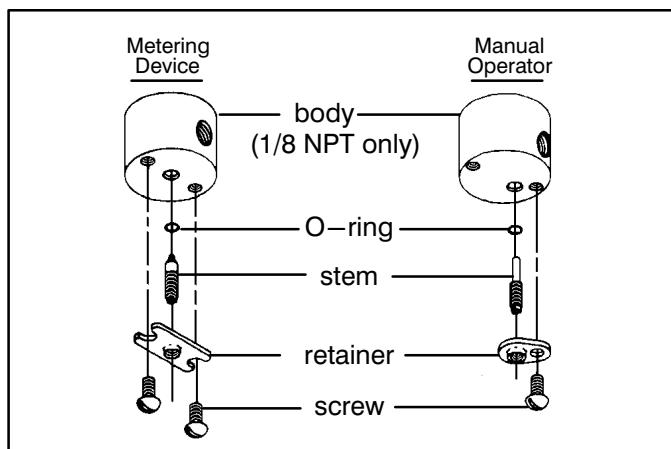

Figure 1. Metering and manual operator constructions.
3. Unscrew solenoid base sub-assembly or valve bonnet with special wrench adapter supplied in ASCO Rebuild Kit. For wrench adapter only, order No. K218948. Remove core assembly, core spring, and solenoid base gasket from valve body. For normal maintenance on Series 8263 valves it is not necessary to remove valve seat. See Figure 1 for metering or manual operator constructions.
Note: Inlet port will either be marked "1" or "IN". Outlet port will be marked "2" or "OUT". (see Figure 1)